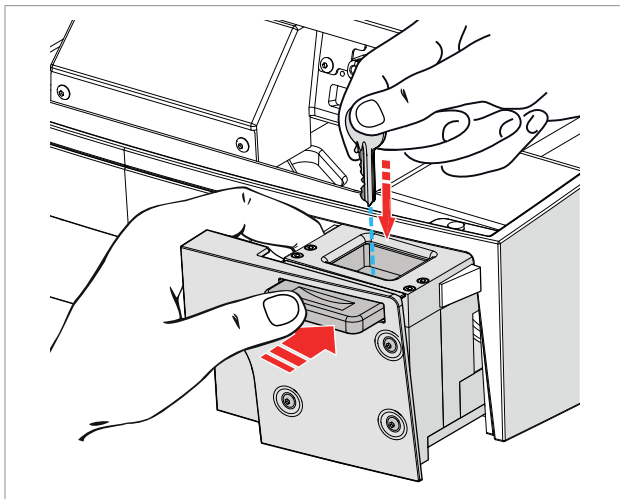

Fig. 75
- 3) Use the other hand to insert the key to be read (Fig. 75).